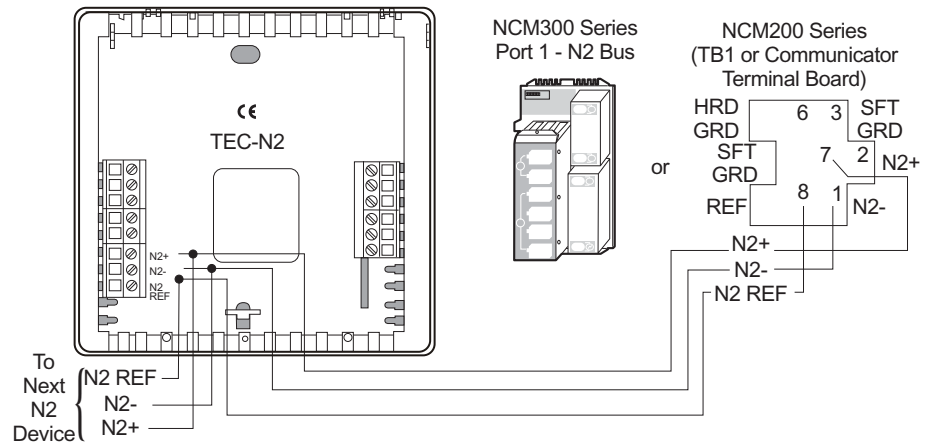

Figure 7: Connecting the TEC-N2 to an NCM
2. Continue this process for each TEC-N2 using the daisy chain wiring method (Figure 7).